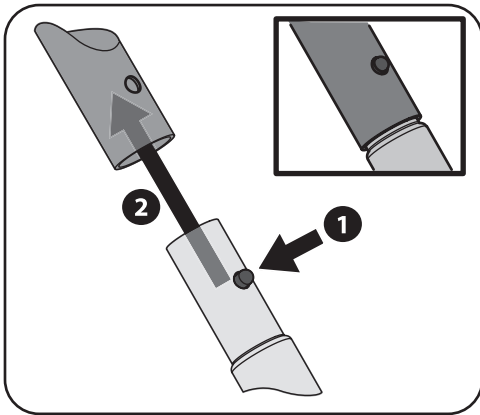

Figure 4-1
1. Press down on the spring clip button and slide it up and out of the connecting piece. See Figure 4-1.